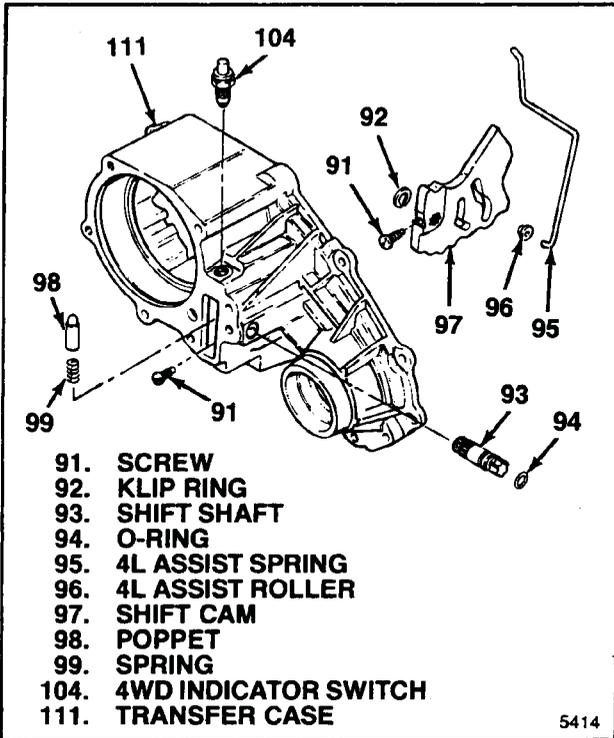

Figure 5-7. Mechanical Shift Cam Parts
5-7. ASSEMBLY OF SHIFT CAM PARTS (MECHANICAL SHIFT TRANSFER CASE ONLY). On mechanical shift units, install parts as follows (see figure 5-7):
a. Lubricate o-ring (94) and install on shift shaft (93). Start splined end of shift shaft into transfer case (111) until end is flush with inside of case. Position flats on outside end of shaft as shown in figure 5-7.
b. Apply petrolatum to spring (99) and poppet (98) and position these parts in hole in transfer case (111). Using care not to unseat poppet, insert shift cam (97) into transfer case in position shown in figure 5-7, with flat end of cam approximately parallel with front face of case. Pressing cam against poppet and compressing spring, align splines in cam and on shaft (93) and press shaft fully into cam.
c. Install klip ring (92) in groove near inside end of shift shaft (93).
d. Install two screws (91), one in end of shift cam (97) and one in transfer case. Torque screws to 4-7 lb-ft (6.8-9.5 Nm). Make sure that shift shaft (93) is fully engaged so that second screw end enters groove in shaft.
e. Install assist roller (96) on end of assist spring (95) and install in groove in shift cam (97) closest to shift shaft (93). Install other end of spring in hole in transfer case (111).
f. Install 4WD indicator switch (104) and torque to 25-35 lb-ft (34-47 Nm)